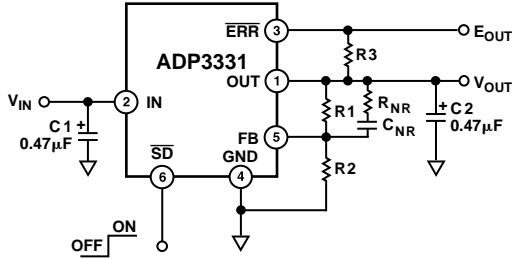

Figure 21. Noise Reduction Circuit
Noise Reduction Capacitor: A noise reduction capacitor can be used to reduce the output noise by 6 dB to 10 dB. This capacitor limits the noise gain when connected between the feedback pin (FB) and the output pin (OUT) as shown in Figure 21. Low leakage capacitors in the 10 pF to 500 pF range provide the best performance. Since FB is internally connected to a high impedance node, any connection to this node should be carefully done to avoid noise pickup from external sources. The pad connected to this pin should be as small as possible and long PC board traces are not recommended. When adding a noise reduction capacitor, use the following guidelines:
The ADP3331 has an adjustable output voltage that can be set by an external resistor divider. The output voltage will be divided by R1 and R2, and then fed back to the FB pin. Refer to Figure 21.